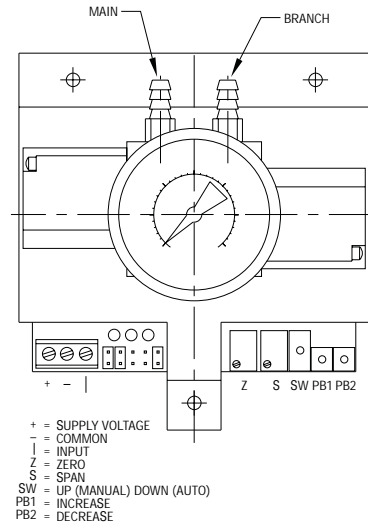

Figure 6: Terminal locations on the electro-pneumatic transducer.
1. Connect air to the Main port (see figure 6).
4. Apply a low input signal to the (-) and (I) terminals (0 VDC or 4 mA).
5. Adjust (Z) to obtain the desired low output pressure.
6. Apply a high input signal to the (-) and (I) terminals (5/10 VDC or 20 mA).
7. Adjust (S) to obtain the desired high output pressure.
To manually control the transducer output, you will need to switch SW up for manual mode (see figure 6). Once in manual mode, you can increase or decrease the output by adjusting PB1 and PB2 (see figure 6).